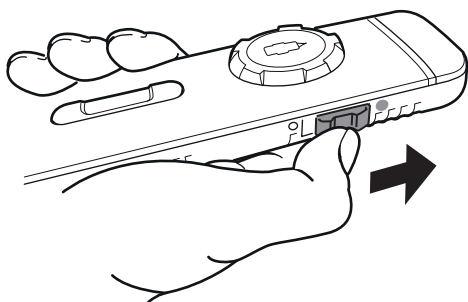

Fig. 12
- Slide the slide switch on the side upwards (Fig. 12). After switch-on, the  symbol flashes in the tool-bar for approx. 5 seconds. Then the  symbol